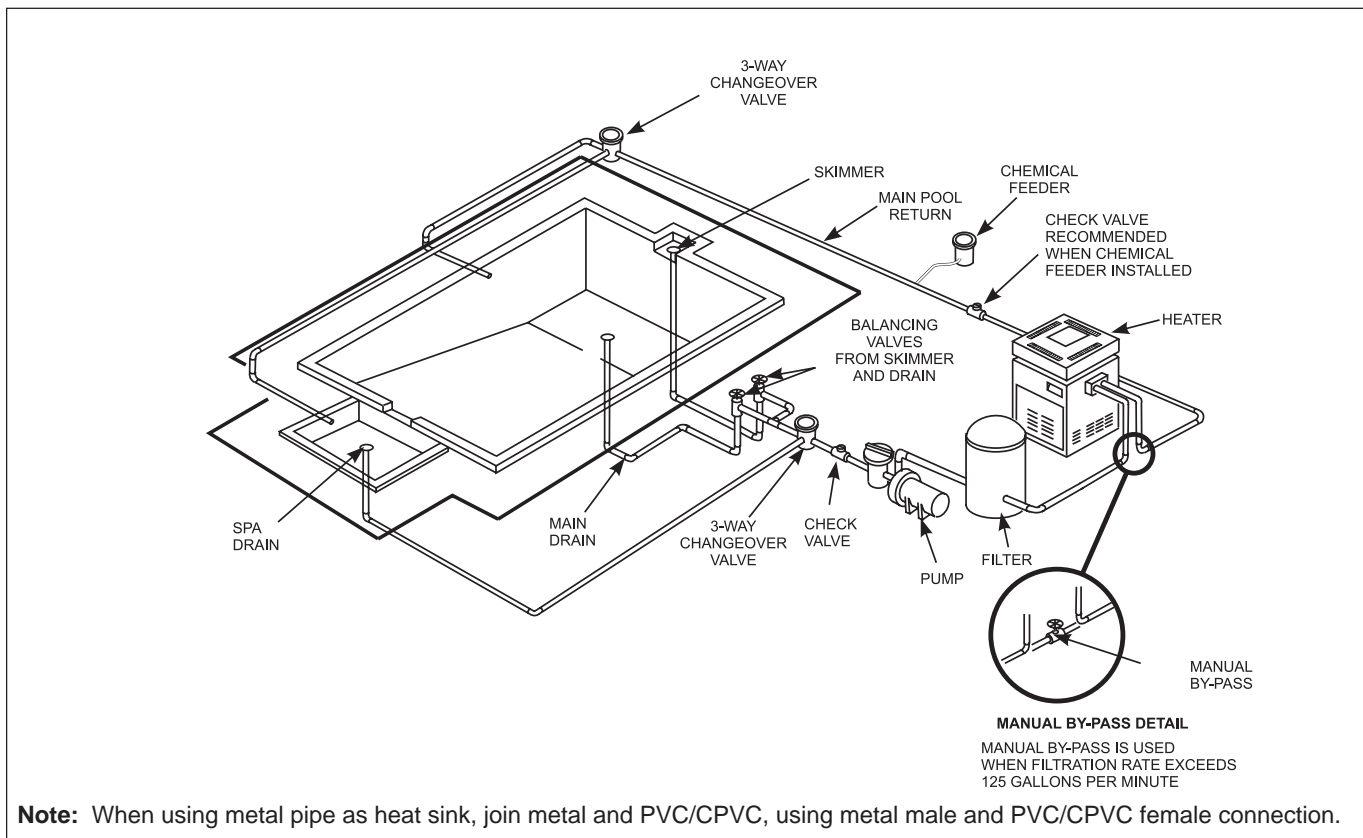

Figure 6. Typical installation.
Figure 6 illustrates typical piping for pool equipment in pool/spa combination pools.
The inlet/outlet header of the Lite2 comes equipped with an automatic flow control valve. The automatic flow control valve maintains the proper flow through the heater at rates up to approximately 125 Gallons Per Minute (GPM) (474 liters per minute [LPM]). If the filter system flow rate is higher than approximately 125 GPM (474 LPM), install a manual bypass valve (see Figure 6), then perform a temperature rise test (see Section 7.6) and adjust the flow using the bypass valve until the proper temperature rise is obtained.
**The heater comes factory-wired intended for use with 240 Volt, 60 Hz AC field electrical supply. To use 120 Volt, 60 Hz AC requires rewiring of the heater.** This should be done by a certified electrician only, as with all wiring. To wire the heater for 120 Volt, 60 Hz AC, follow the alternate 120V wiring method depicted in Figure 6. Additionally, the ignition control module must be rewired. The wire from the terminal marked IGN/240 must be removed from that terminal and placed on the terminal marked IGN/120.